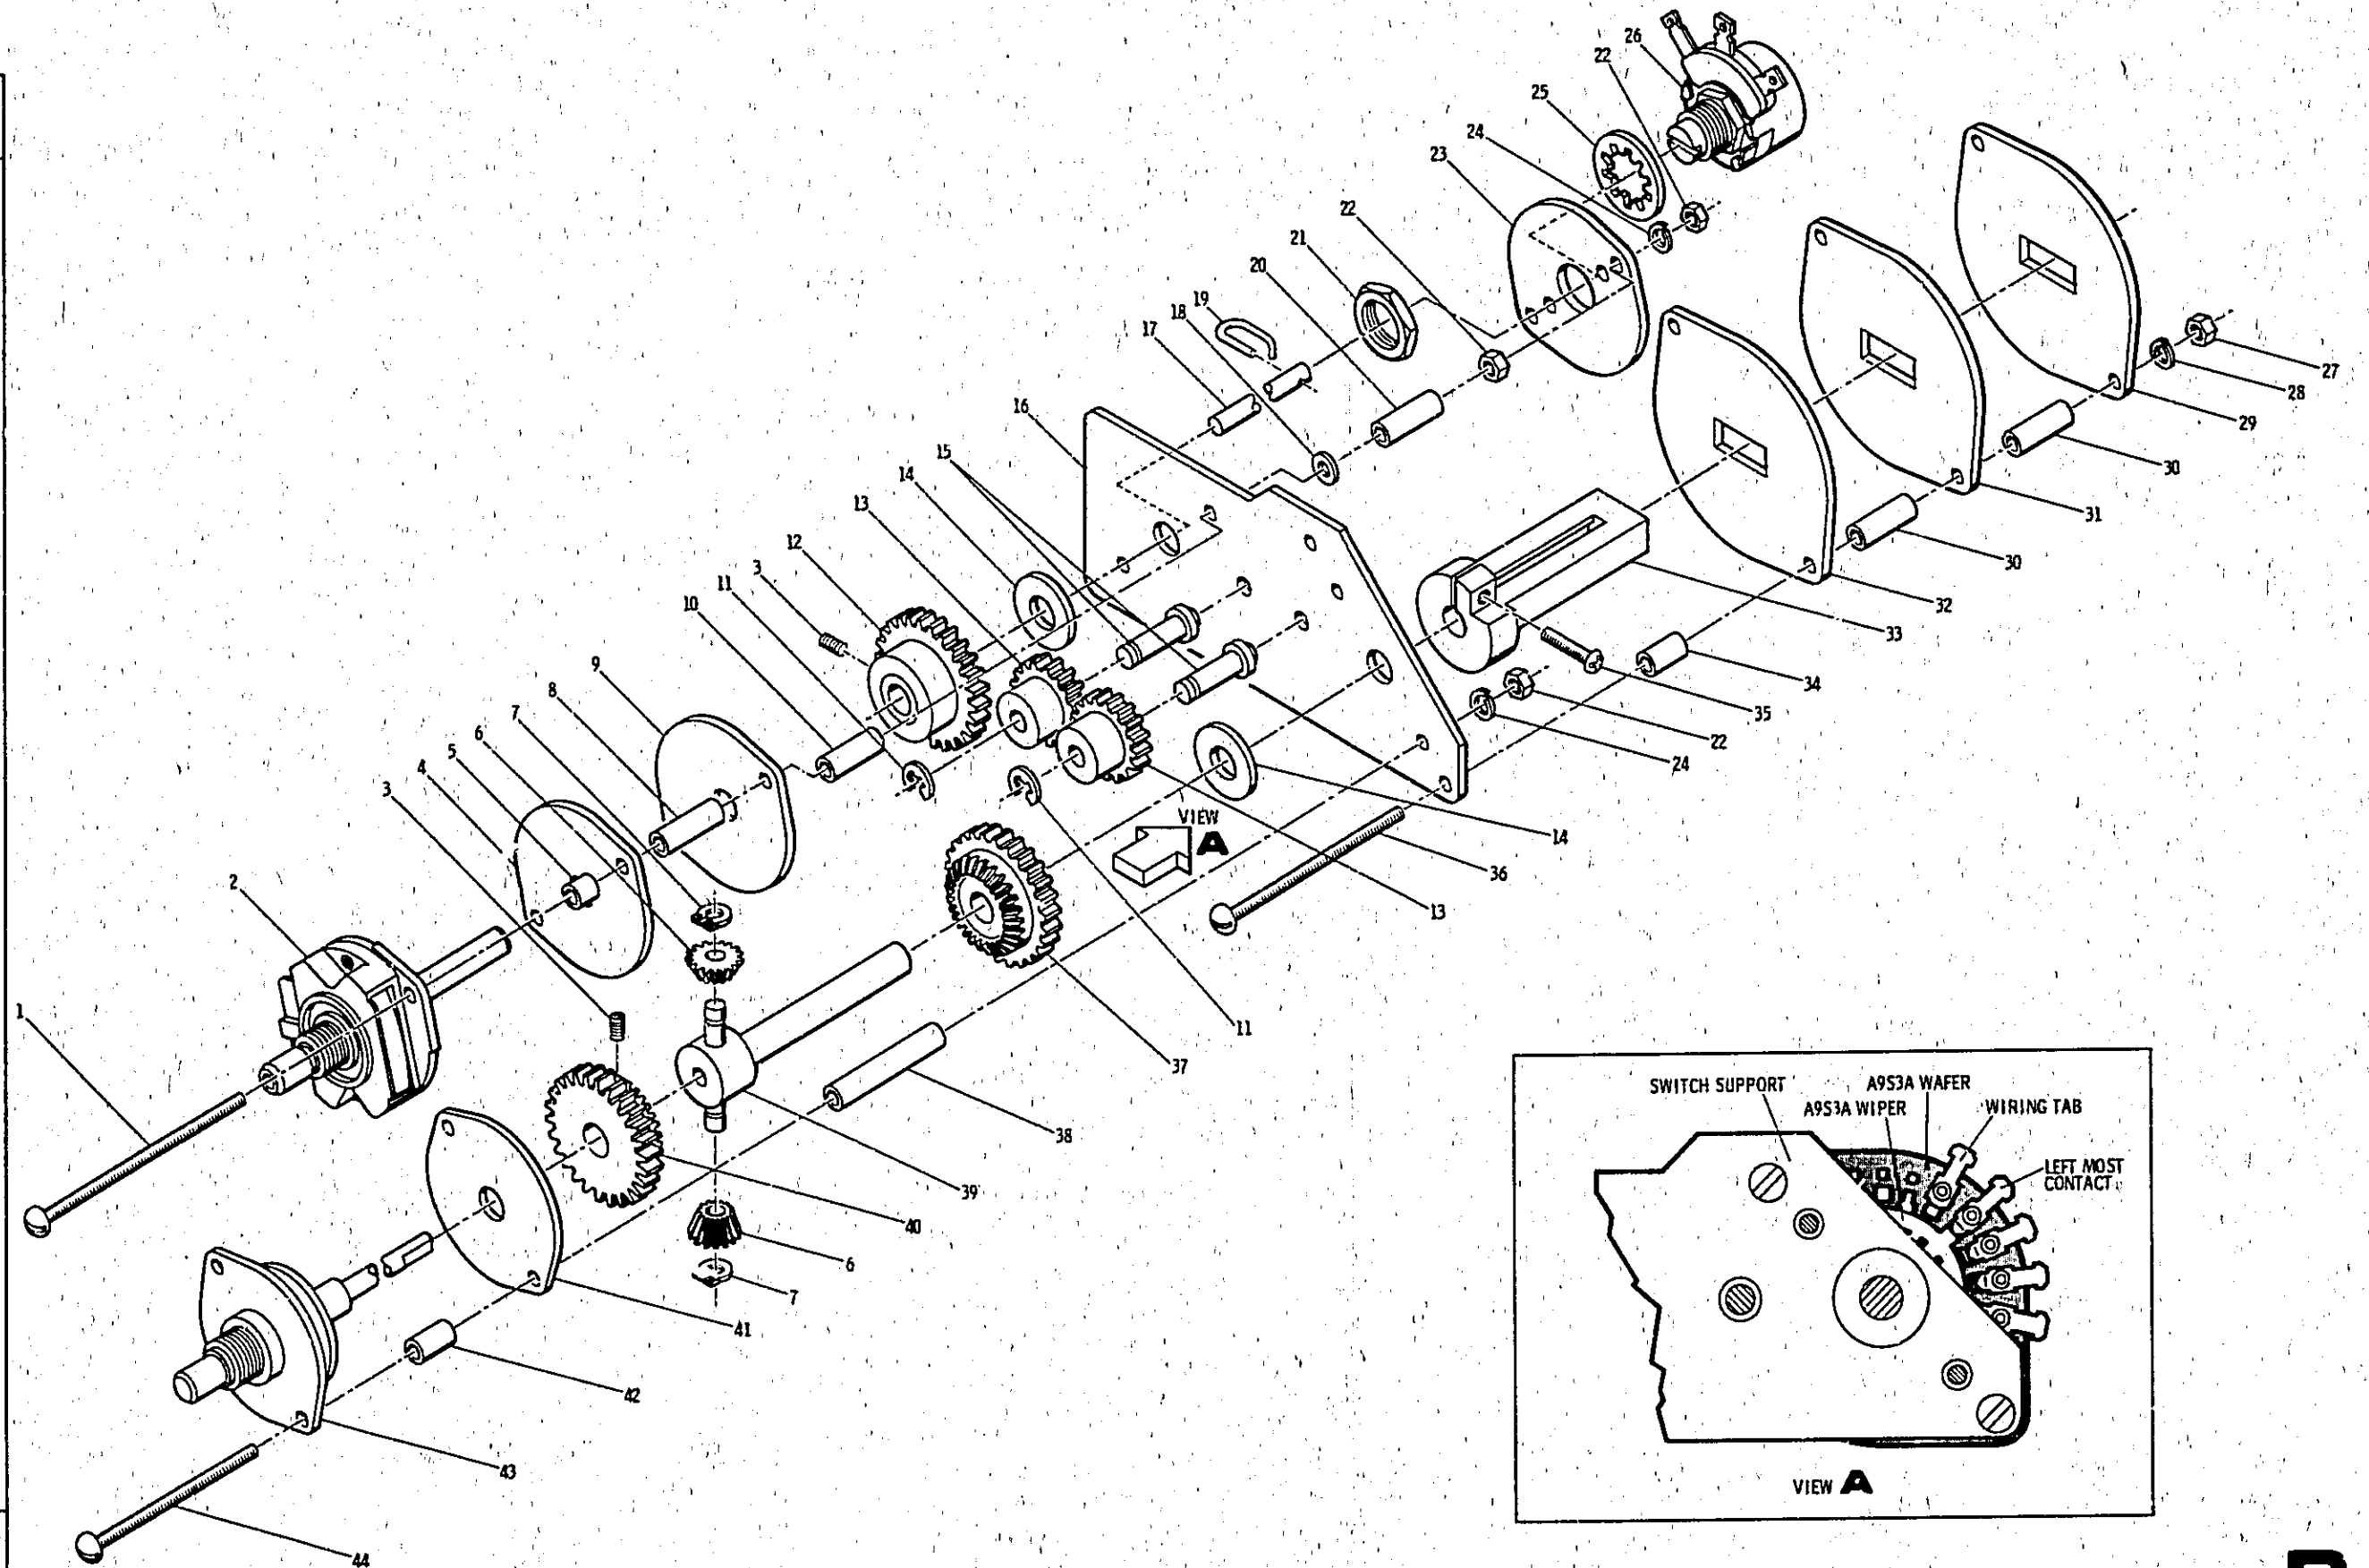

Figure 8-80. A9 Peak Deviation and Range Switch Assembly Illustrated Parts Breakdown
2. Loosen the screw (35) in the adjustable shaft (33), and while viewing the switch as shown in Figure 8-80, Detail A, rotate the shaft to align the single wiper tab on S3A front with the leftmost contact (connected to a single 94 wire).
3. Hold the adjustable shaft in position while tightening the screw (35) to fix its position.